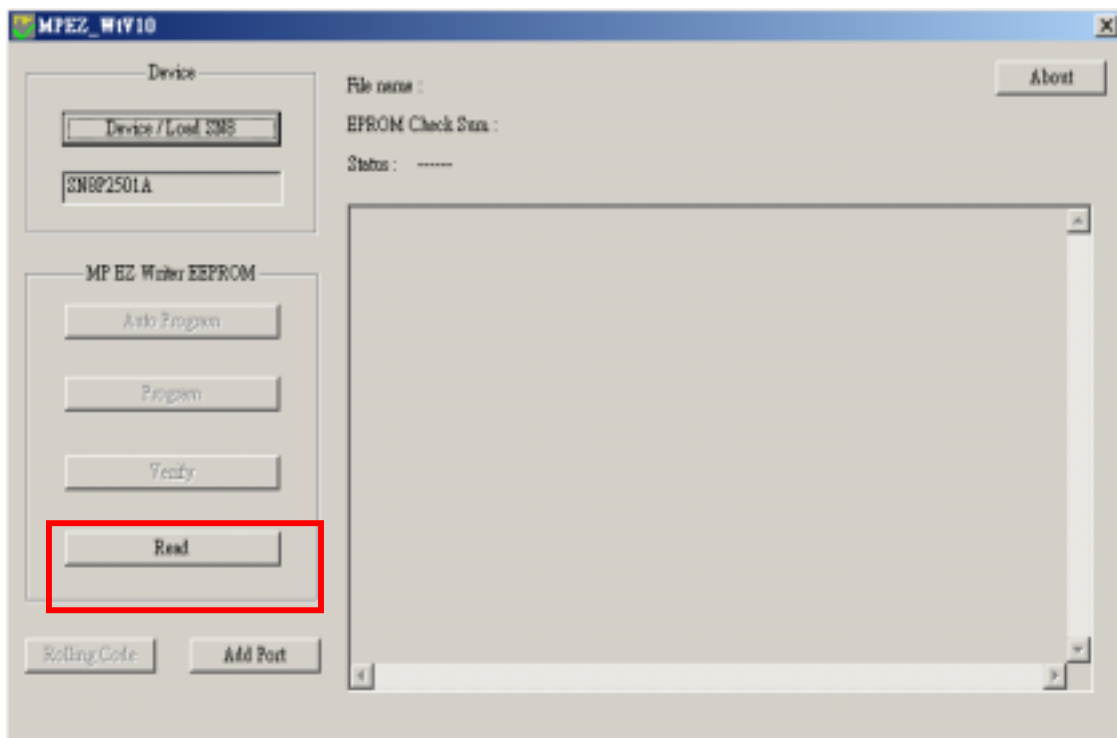
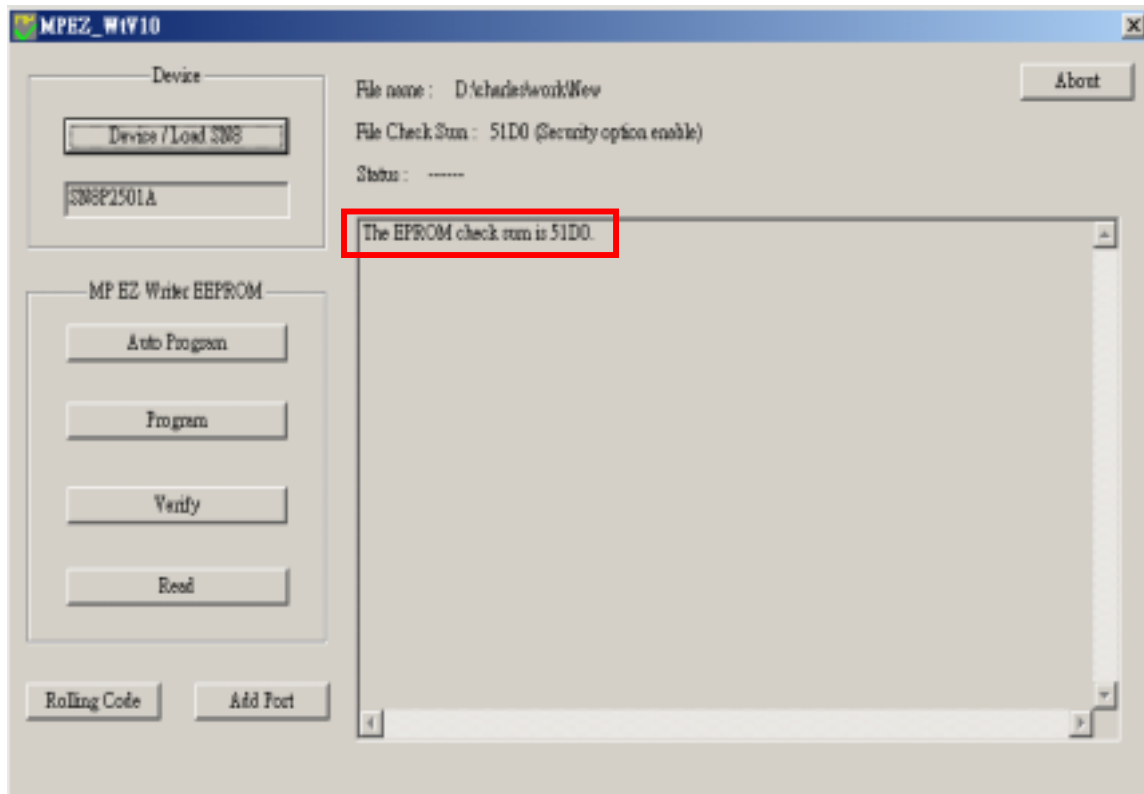

Figure11.not open (*.SN8) file
Figure12.open (*.SN8) file
- If you had open (*.SN8) file, then it will show all function as figure12. If you don't open (*.SN8) file, then it will only show "Read" function as figure11.